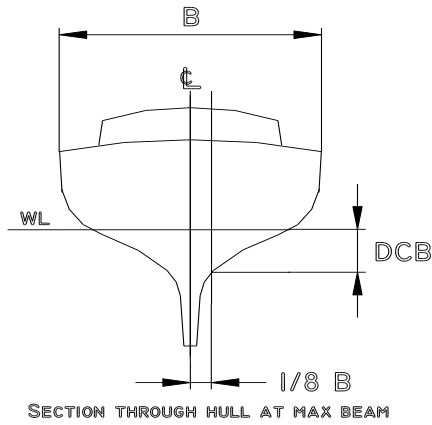

Figure 2
**Depth of hull below waterline at one eighth beam from centreline (Figure 2). This is not the draught.*